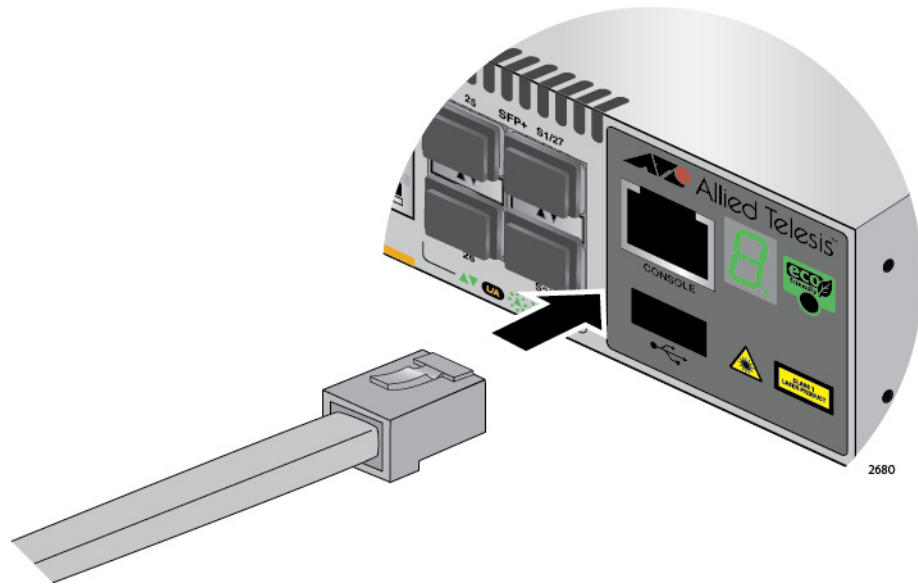

Figure 49. Connecting the Management Cable to the Console Port
1. Connect the RJ-45 connector on the management cable to the Console port on the front panel of the switch, as shown in Figure 49 on page 94.